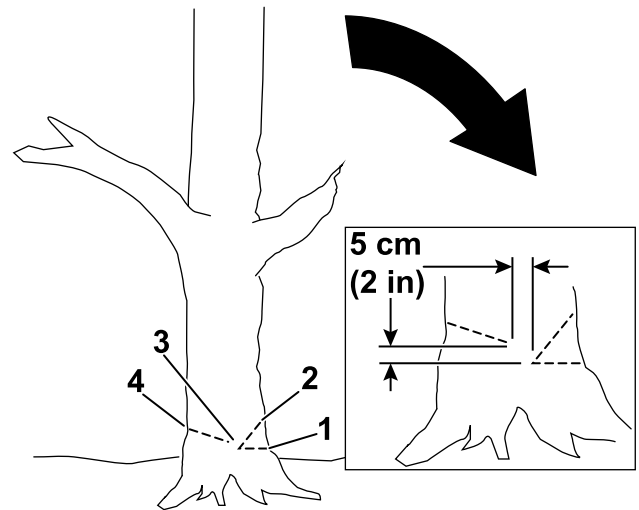

Figure 16
4. Make the first cut a third of the way through the tree diameter on the side where you want the tree to fall (Figure 16).
5. Make a second cut to form a notch, starting the cut at least 5 cm (2 inches) above and away from the first cut (Figure 16).
6. Make the back cut from the opposite side of the notch and about 5 cm (2 inches) higher than the bottom of the notch as shown in Figure 16.
**Important:** Stop the third cut 2.5 to 5.0 cm (1 to 2 inches) from the notch to form a hinge between the cuts (Figure 16), which keeps the tree from falling in the wrong direction or twisting as it falls.
**Note:** As the back cut nears the hinge (Figure 16), the tree should begin to fall.